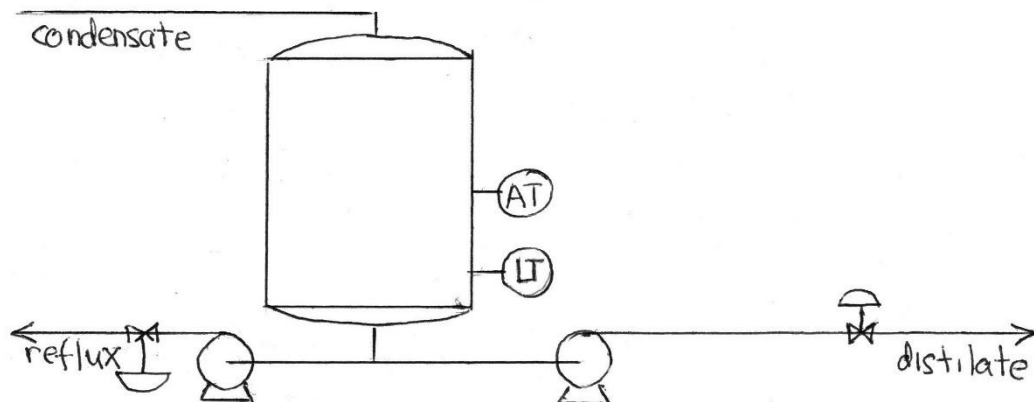

Figure 1 Condensate from a distillation process
Figure 1 represents part of a distillation process. It is a reflux tank that receives the condensed vapor from a distillation column. The vapor has been purified by the sequential tray-to-tray “boiling” in the column. The distillate condensate enters the top of the tank. Some of the condensate is returned to the column as reflux, to control purity of the distilled product. The residual portion of the condensate is the distillate product. The tank needs to have the liquid level controlled – the Level Transmitter (LT) reports the level. The Analysis Transmitter (AT) is probably located in the vapor line exiting the column for faster response, but for convenience I show the AT on the tank. AT is commonly reporting the impurity in the distillate, not the purity.